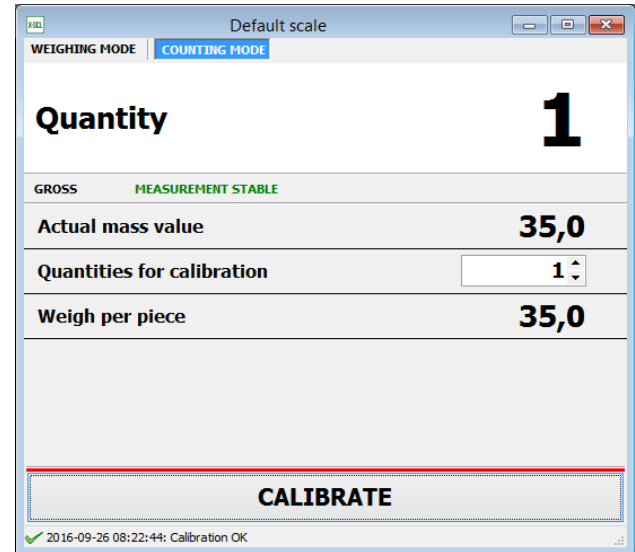

Fig. 25 Counting mode
- **Counting mode** – activates the counting mode Fig. 25 more about this mode in chapter 9.2